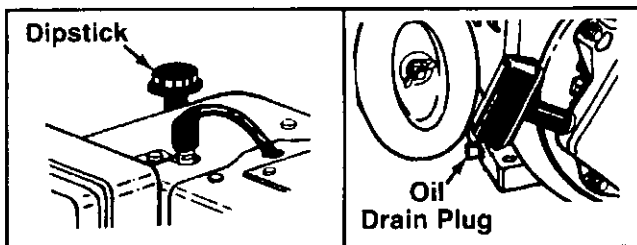

FIGURE 7.
- Fill engine with oil as follows. Remove oil fill dipstick. See figure 7. With chipper-shredder level, use a funnel to fill engine with oil to FULL mark on dipstick. Capacity is approximately 1 1/2 pints. Be careful not to overfill. Tilt chipper-shredder toward the left (from behind the hopper), then re-level. Check oil level. Refill to FULL mark on dipstick if necessary. Replace dipstick and tighten.
Check engine oil level regularly—approximately every five hours of operation and before each usage. Stop engine and wait several minutes before checking oil level. With engine level, the oil must be to FULL mark on dipstick (refer to figure 7). Change engine oil after the first two hours of operation, and every twenty-five hours thereafter.
Remove oil drain plug. Refer to figure 7. Tip the chipper-shredder, and catch oil in a suitable container.